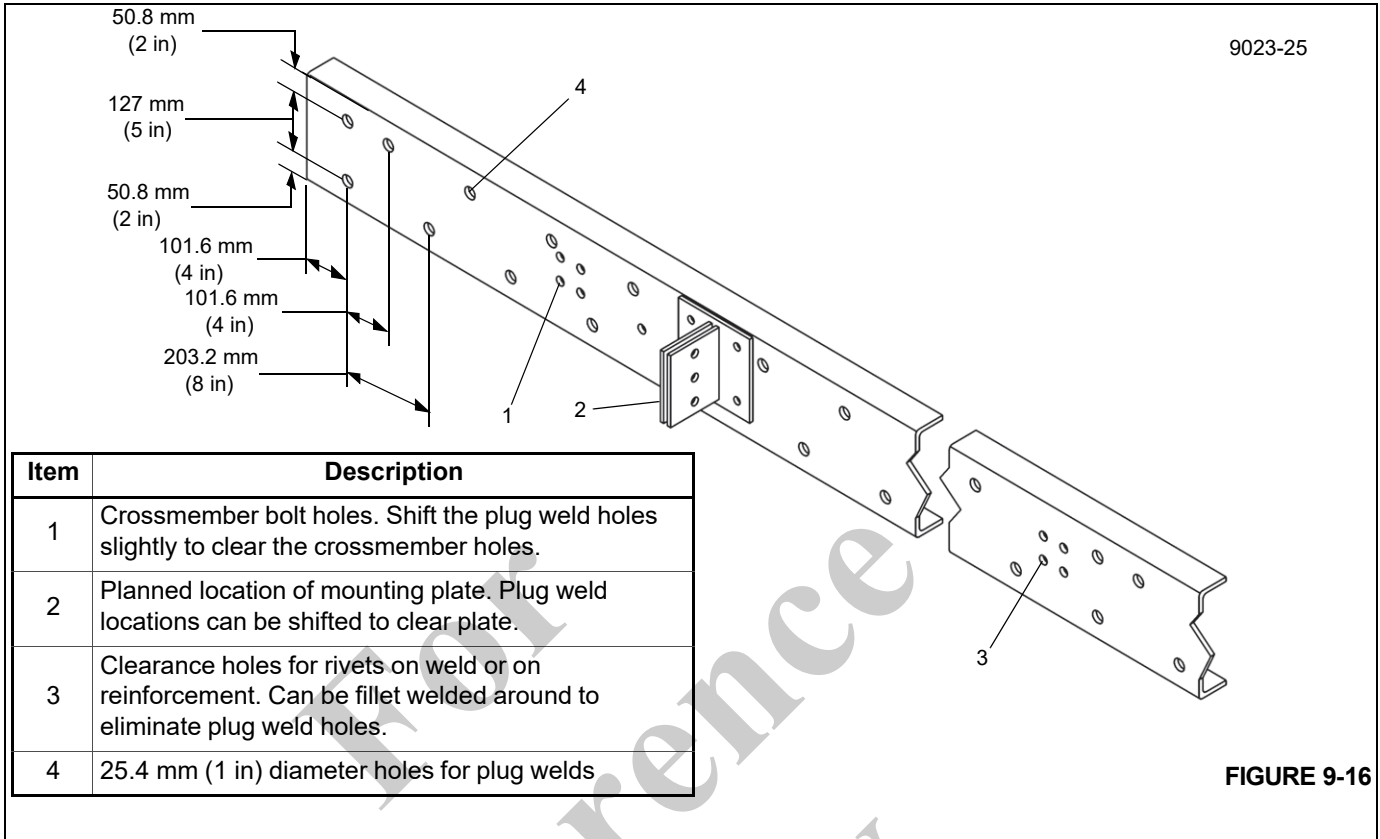

FIGURE 9-16
- a. Mark the location of rivets (3) by striking the outside of the reinforcement over the rivet area with a hammer so that the rivets make an impression on the inside of the reinforcement.
- b. Mark the approximate location of the crane mounting anchors (5) on the reinforcement so that no obstructions exist.
- c. Remove the reinforcement and cut clearance holes (2) for the rivets.
4. If reinforcement is to be welded to the truck frame (4), remove the crossmember bolts (6).
- a. Place the reinforcement on the truck frame (4). Mark the existing truck frame hole pattern onto the reinforcing and then remove the reinforcement.
- b. Using the markings, cut the hole pattern in the reinforcing (1). Be sure to clear the crane mounting anchors (5).
5. Clamp the reinforcement in place on the truck frame (4), install crossmember bolts (6) that were previously removed, and weld to the truck frame as shown in Figure 9-16.
6. If bolt-on reinforcing is required, clamp the reinforcing in place and install crossmember bolts (6) into the holes that were previously removed.
- a. Drill through the reinforcement and truck frame. Make sure to clear the crane mounting anchors (5) and bolt the reinforcing in place.
8. If the reinforcement angle is welded to the truck frame, cut out the plug weld hole pattern as shown in Figure 9-16. and install onto the existing truck frame.
- a. Slide the reinforcement angle (1) up from the bottom, place it up to the reinforcement under the crane (4), and butt weld (9) the reinforcement angle to the reinforcement under the crane.